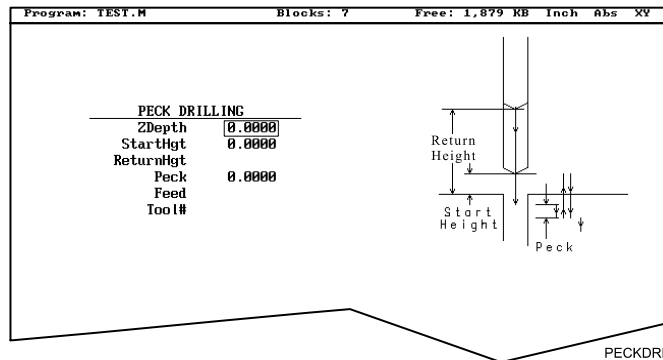

Figure 5-2, PECK DRILLING Graphic Menu
2. Highlight **Pecking**, and press **ENTER** to display the **PECK DRILLING** Graphic Menu. Refer to **Figure 5-2**.